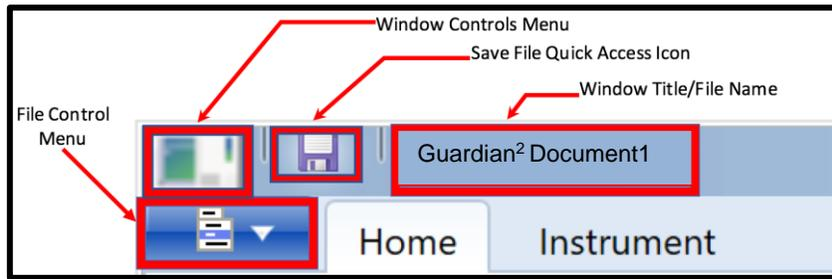
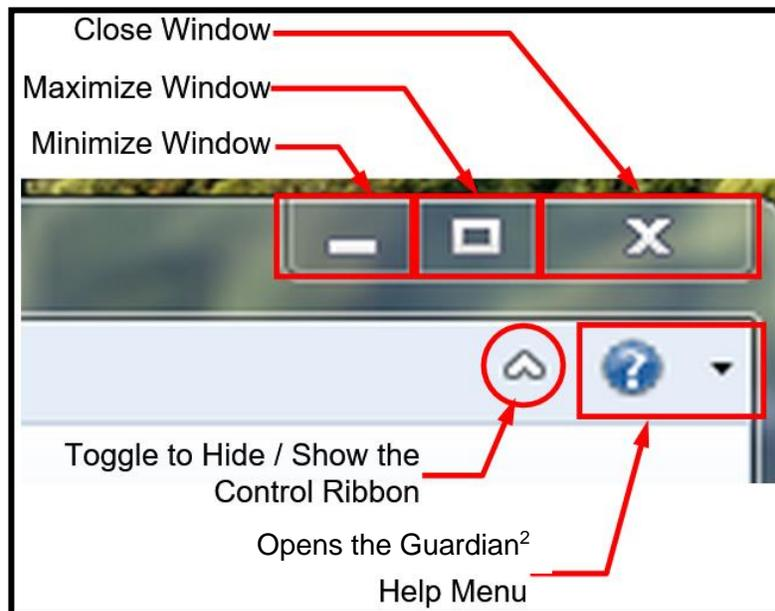

Figure 4
Figure 5
- Window Control Buttons (Figure 4 and Figure 5)
- Window Control Buttons (Figure 4)